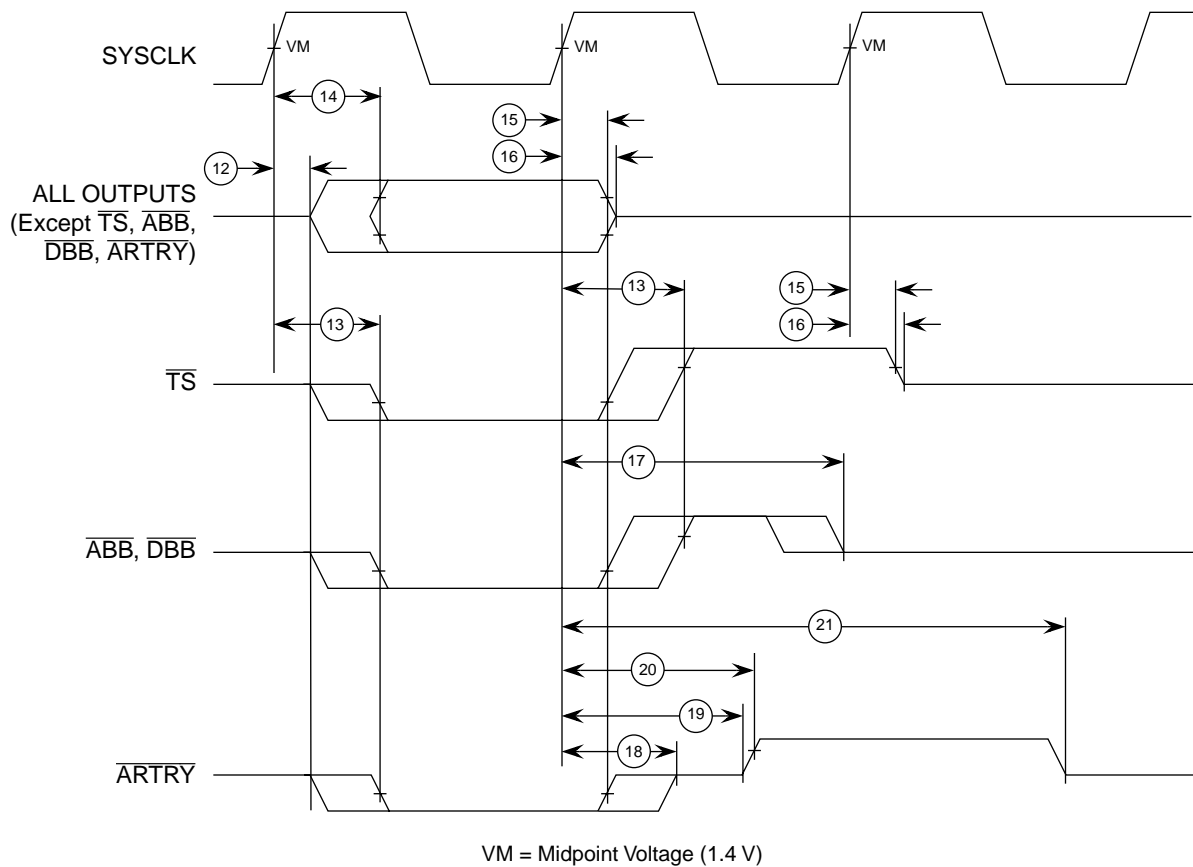

Figure 4. Output Timing Diagram
Table 8 provides the output AC timing specifications for the 603e as defined in Figure 4.
- All output specifications are measured from the 1.4 V of the rising edge of SYSCLK to the TTL level (0.8 V or 2.0 V) of the signal in question. Both input and output timings are measured at the pin (see Figure 4).
Figure 4 provides the output timing diagram for the 603e.